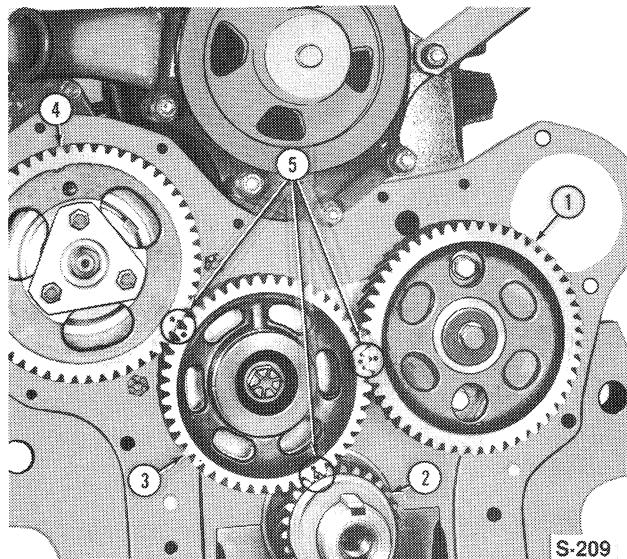

Figure 27
8. Remove the fuel injection pump drive gear, cam-shaft drive gear and adapter, and the camshaft gear, Figure 27.